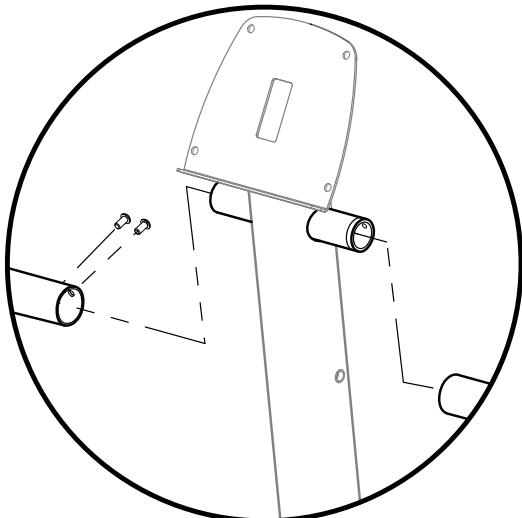

Figure 5A
**5-1** Attach the Left Hand Rail to the Mast with 2 Button Head Screws (Figure 5A).